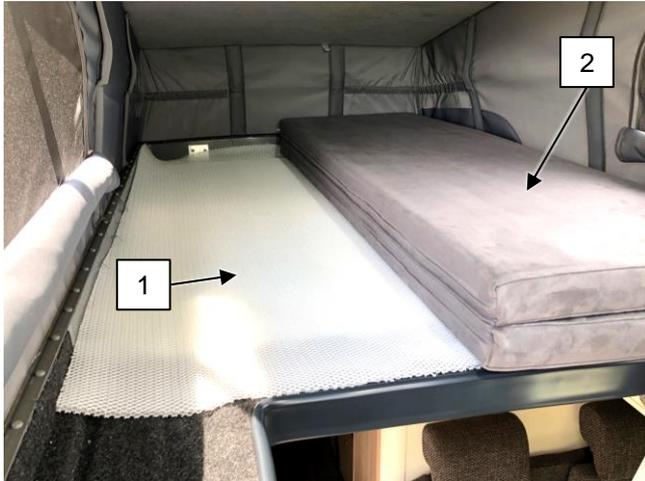

Abb. 10-1: Installation of the roof bed
- First place the net underlay (see Abb. 10-1,1) in the sleeping area.
- Bring the mattress (2) through the step into the sleeping area.